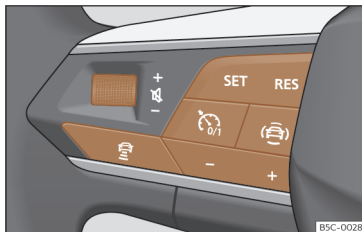

Fig. 173 On the multifunction steering wheel: buttons to operate the ACC
Your vehicle has ACC if it has a configuration menu in the infotainment system»» page 92 and if it has the ACC function buttons on the multifunction steering wheel»» Fig. 173.
- To start regulation, press the button **SET** >>> **Fig. 173**.
To program the speed, press the + or - >>> **Fig. 173** buttons to the desired speed. The speed is adjusted at intervals of 10 km/h (5 mph).
- Press the button  and then the button + or - >>> **Fig. 173**.